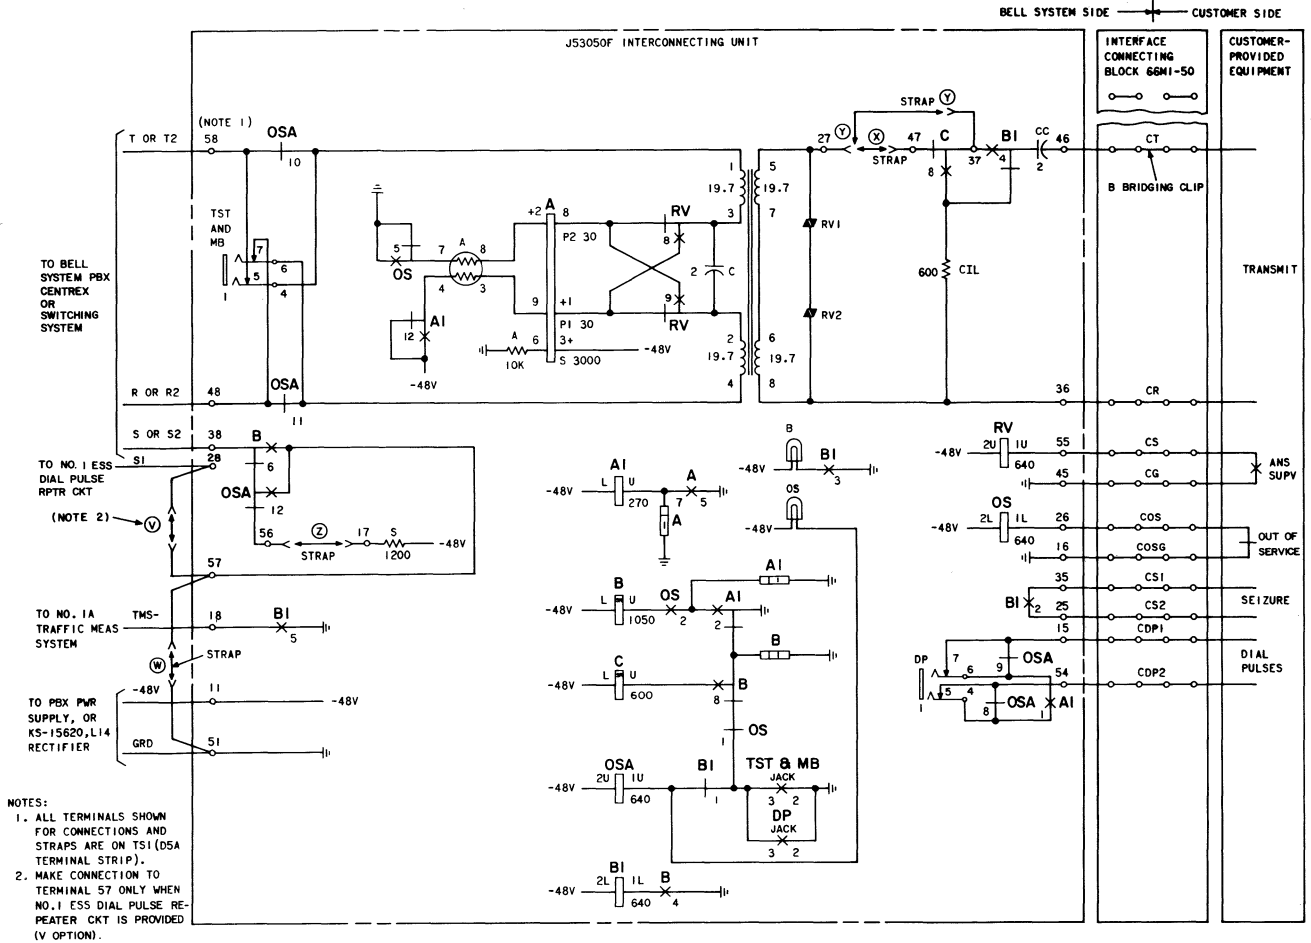
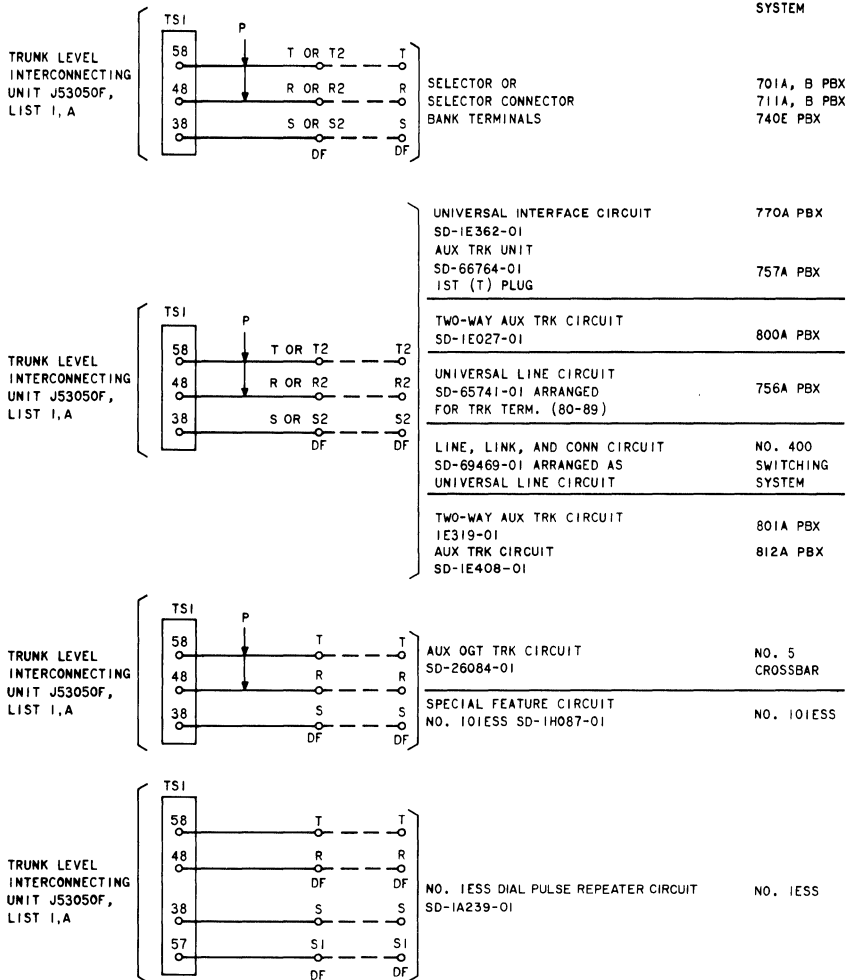

Fig. 4—Schematic and Connections—Voice Connecting Arrangement DCK
Fig. 5—Typical Connections for System Terminating Circuits with Trunk Level Interconnecting Unit J53050F, List 1, A
- 3.07** Provide straps on the J53050F IU as shown in Table A and Fig. 4.
FOR FIG. 4
##### 4.01 Seizure (Fig. 4):
CPE when option X is provided (option Y must be provided when transmission during dialing is required—see Fig. 4 and Table A) and places a 600-ohm idle line termination across leads CT and CR through capacitor CC. At the end of the first pulse, relay A re-operates which subsequently operates relay A1. On successive pulses, relays A and A1 release and re-operate; after the last pulse with relay A1 operated, relay C releases. Relay C released removes the idle line termination across leads CT and CR and recloses the transmission path.
**6.01** For connecting information refer to Fig. 4, 5, and Table A. Connections between Voice Connecting Arrangement DCK and the associated system (PBX or Centrex) switching equipment are shown in Fig. 5.